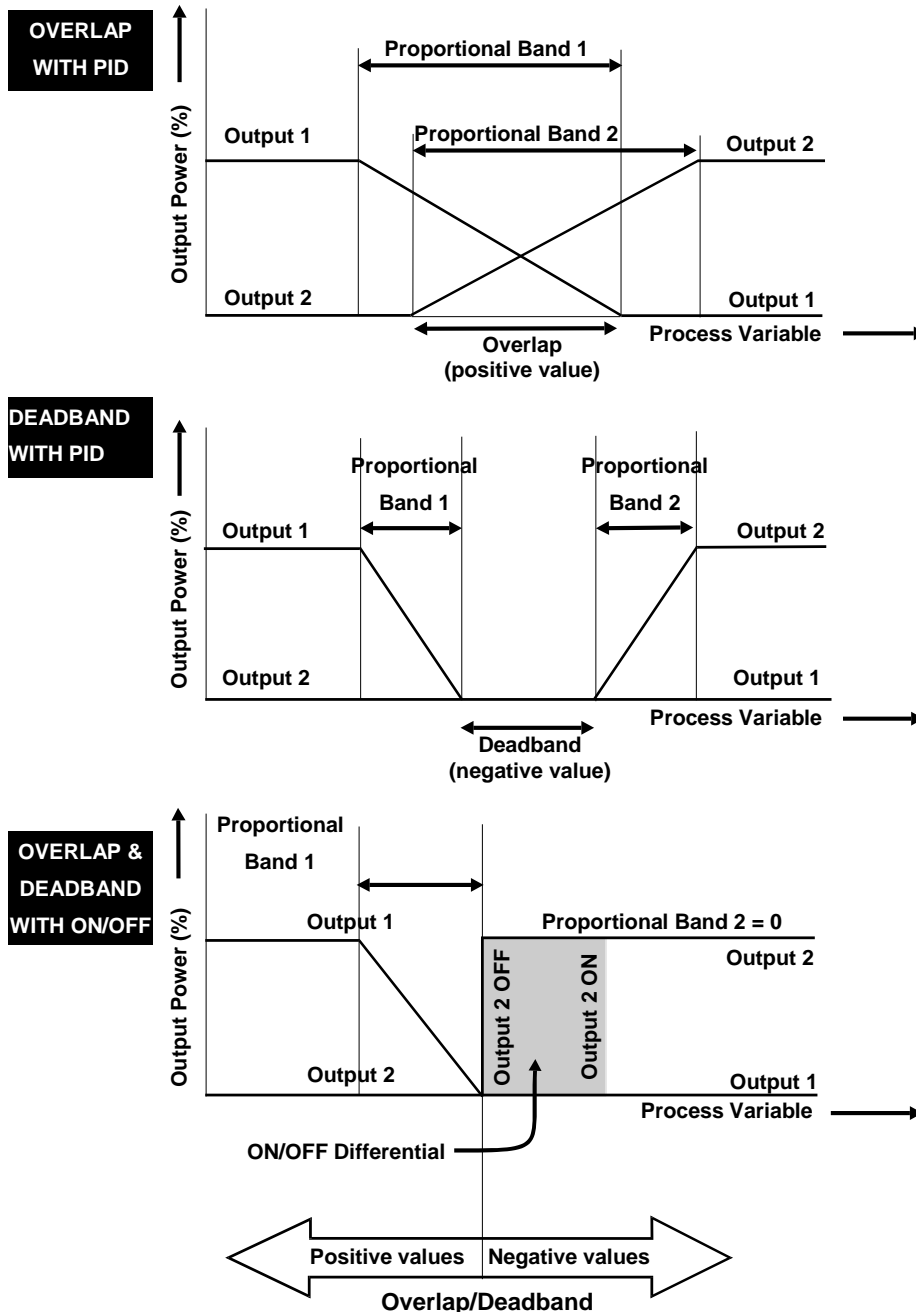

Figure 65. Overlap/Deadband
*The effect of the Overlap/Deadband parameter is shown in Figure 65.*